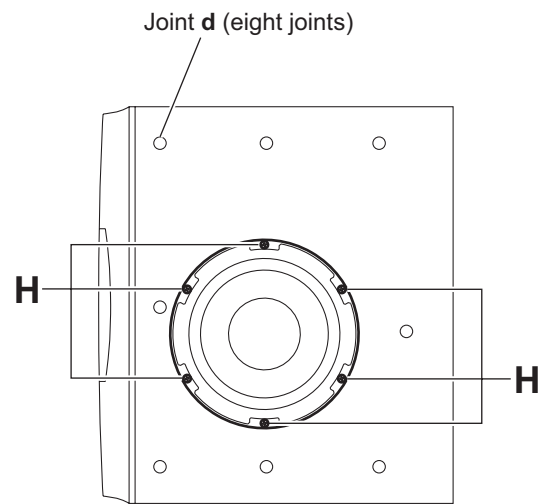
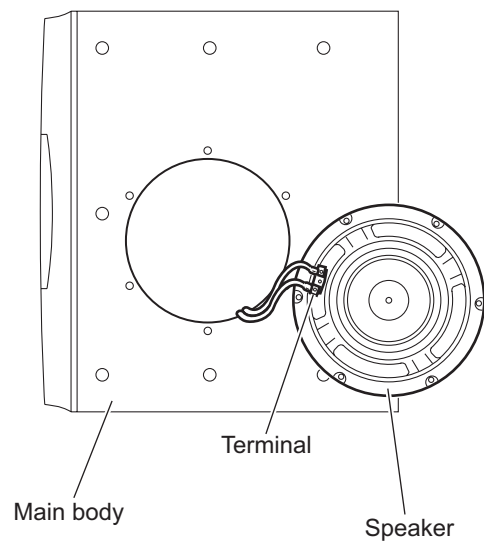

Fig.8
Fig.9
3.7 Removing the speaker. (See Fig 8 and Fig 9)
- (1) Remove the six screws **H** attaching the speaker. (Fig 8)
- (2) Take out the speaker from the main body.
- (3) Disconnect the wires from the terminal of the speaker. (See Fig 9)